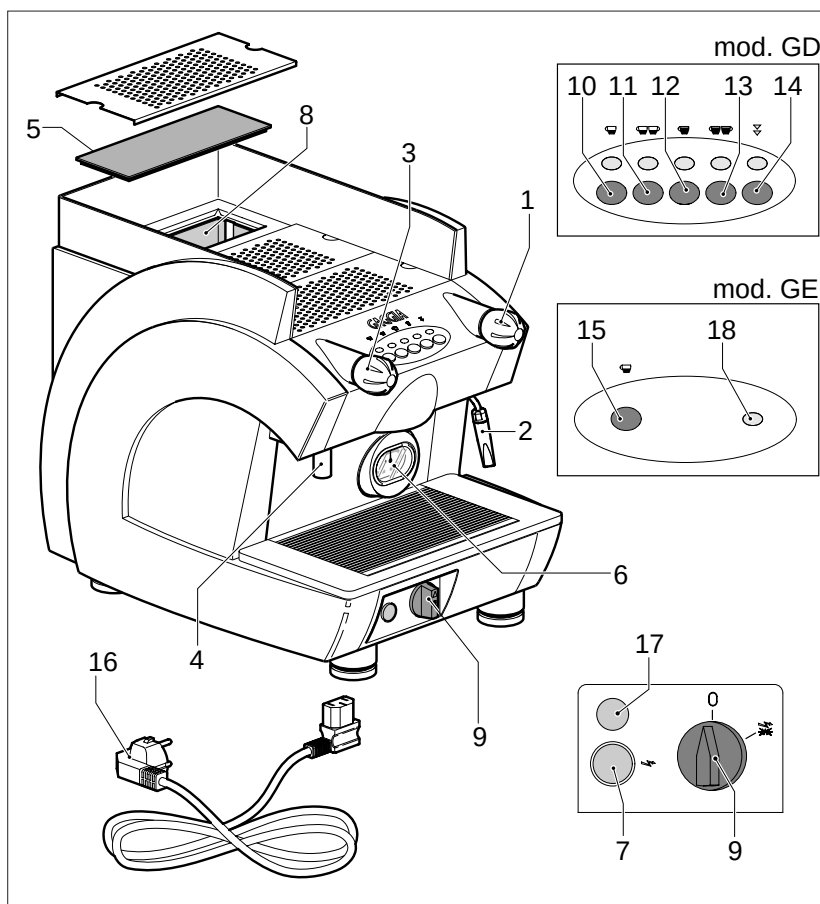

Fig.6.01
N.B. In case of lack of water, on GE machines the pilot light will turn on (Fig.6.01 - pos.17).
Only during the first loading, this operation can take quite a long time and make the machine stop; in this case switch off the machine and switch it on again by acting on the main switch (Fig.6.01-pos.9).
- Then wait until the machine reaches the operating pressure of "1,2 - 1,3 BAR" by checking the boiler pressure on the manometer (Fig.6.01-pos.6).